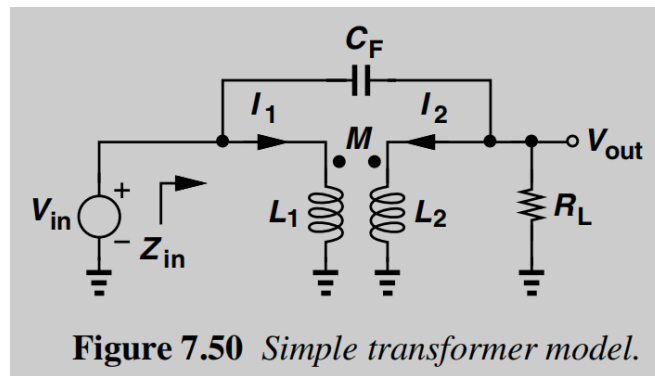

Figure 7.50 Simple transformer model.
7.9. Find the input impedance, Z_{in} , in Fig. 7.50.